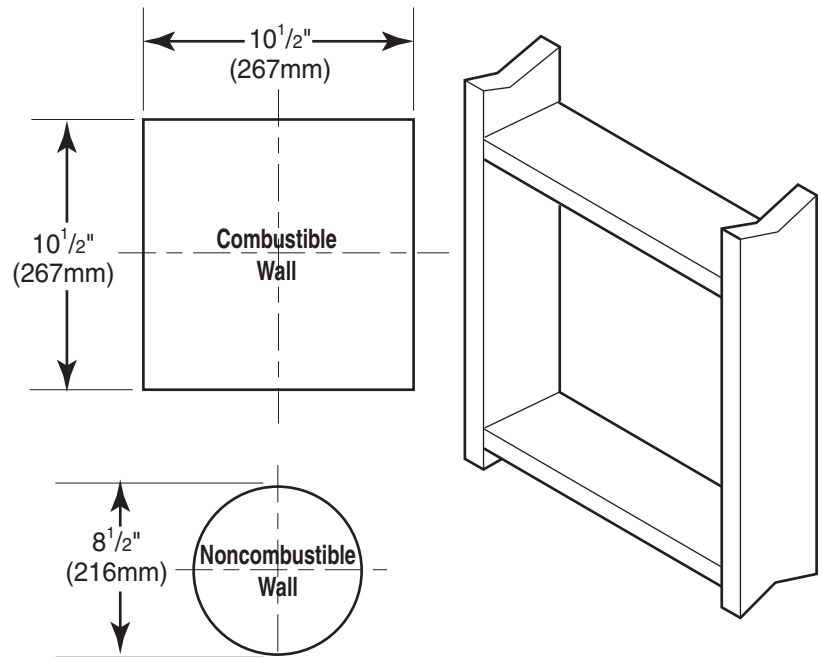

Figure 26 - Exterior Wall Framing Dimensions for 5"x8"
2. The center of the hole should line up with the center line of the horizontal rigid vent pipe end. Allow ¼" minimum rise per foot. See Figure 26.